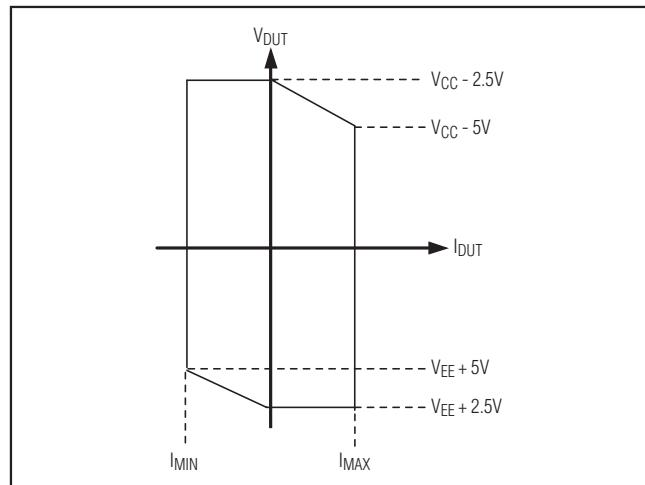

Figure 2. Output Swing
- 2) The voltage drop across the sense resistor and internal circuitry in series with the sense resistor. At full current the combined voltage drop is 2.5V, 1V across the resistor and 1.5V across the switches. This voltage is not all in addition to the overhead requirement. There is some overlap of the two effects; see Figure 2.
Neglecting the effects of items 3 and 4, the output capabilities of the DPS are demonstrated by Figure 2.
Figure 2 shows that for zero DUT current, the DUT voltage swing is from (VEE + 2.5V) to (VCC - 2.5V). For positive DUT currents, the maximum voltage drops off